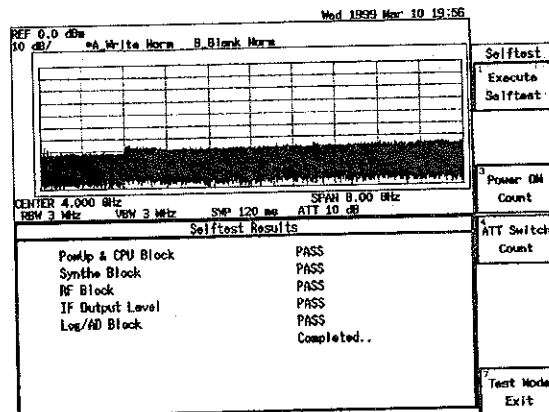

Figure 5-3 Result Display of Self Test Function.
4. The result display is shown in Figure 5-3